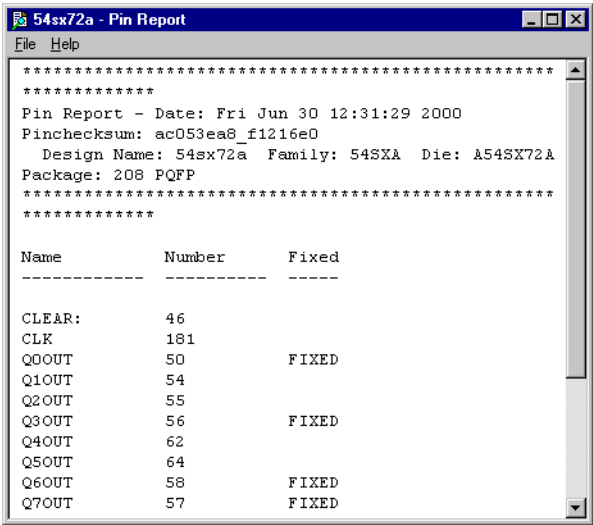

Figure 2-41. Pin Report
3. **Specify the type of report to generate. Select Number or Name from the List By pull-down menu, then click OK.** This displays a pin report, as shown in Figure 2-41.